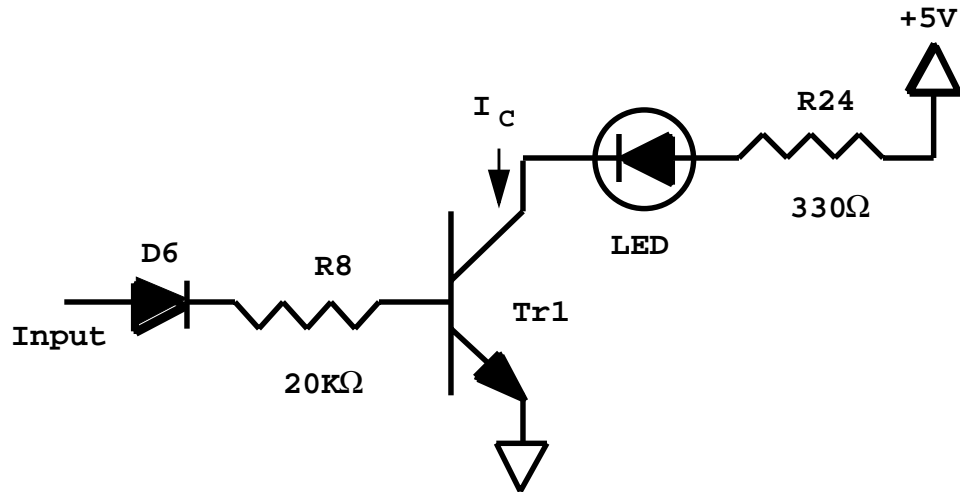

Figure 4.1 LED driver circuit.
Fig. 4.1 shows the light emitting diode (LED) driver circuit that you will be building in this laboratory exercise. The heart of this circuit is an LED. Remember that an LED is simply a diode which has an ON voltage that is much higher than the 0.7V typical of silicon diodes. The LED in your robot kit turns on with approximately 1.8V forward voltage (it is made from semiconductor materials that are different from those used in the diodes and transistors in your lab kit, which is why the forward voltage is not 0.7V). The intensity of the light emitted by the LED is proportional to the current flowing through the diode.
1. First, build the LED circuit on the protoboard as is shown in Fig. 4.1. The transistor is TR1, a 2SC1815Y (see Fig. 4.2 for a reminder of the lead positions for the transistor). Set the +20V part of the power supply to +5V and connect it to power your circuit (connect to R24). Don't forget to connect the common terminal of the power supply to the emitter of Tr1. We will use the +6V part of the power supply to act as an input signal that we will vary between 0V and 5V. Set the voltage output of the +6V part of the power supply to 0V and connect it as the input to your circuit (connect to D6). Note, the meter on the power supply is not very accurate; you should measure the actual input voltage with the DMM. Make sure the leads of the DMM are in the LO and Volt-Ohm jack not the AMP jack.